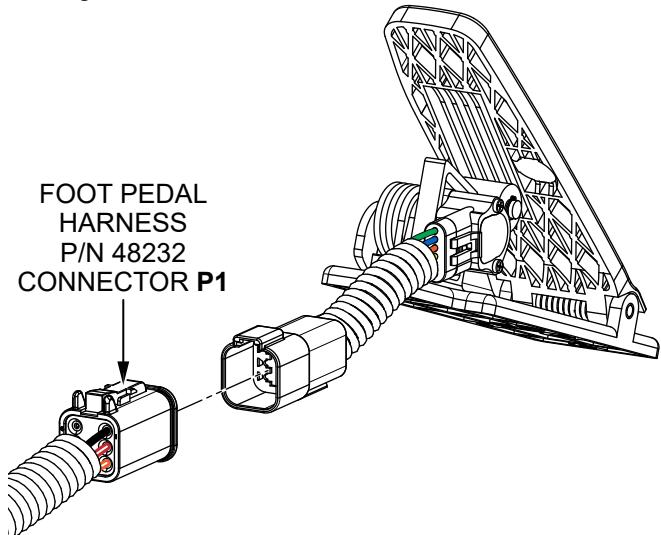

Figure 10. Connect Foot Pedal Harness To Foot Pedal
4. Connect the foot pedal wiring connector to connector P1 on the foot pedal harness (P/N 48232). See Figure 10.